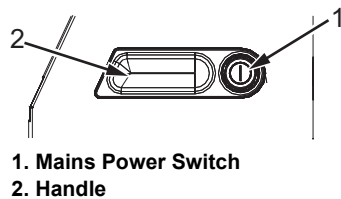

Figure 3-5: Mains Power Switch
The mains power switch (item 1, Figure 3-5) is a green push button to turn on or turn off the power supply to the printer. You can find the mains power switch on the right side of the printer.